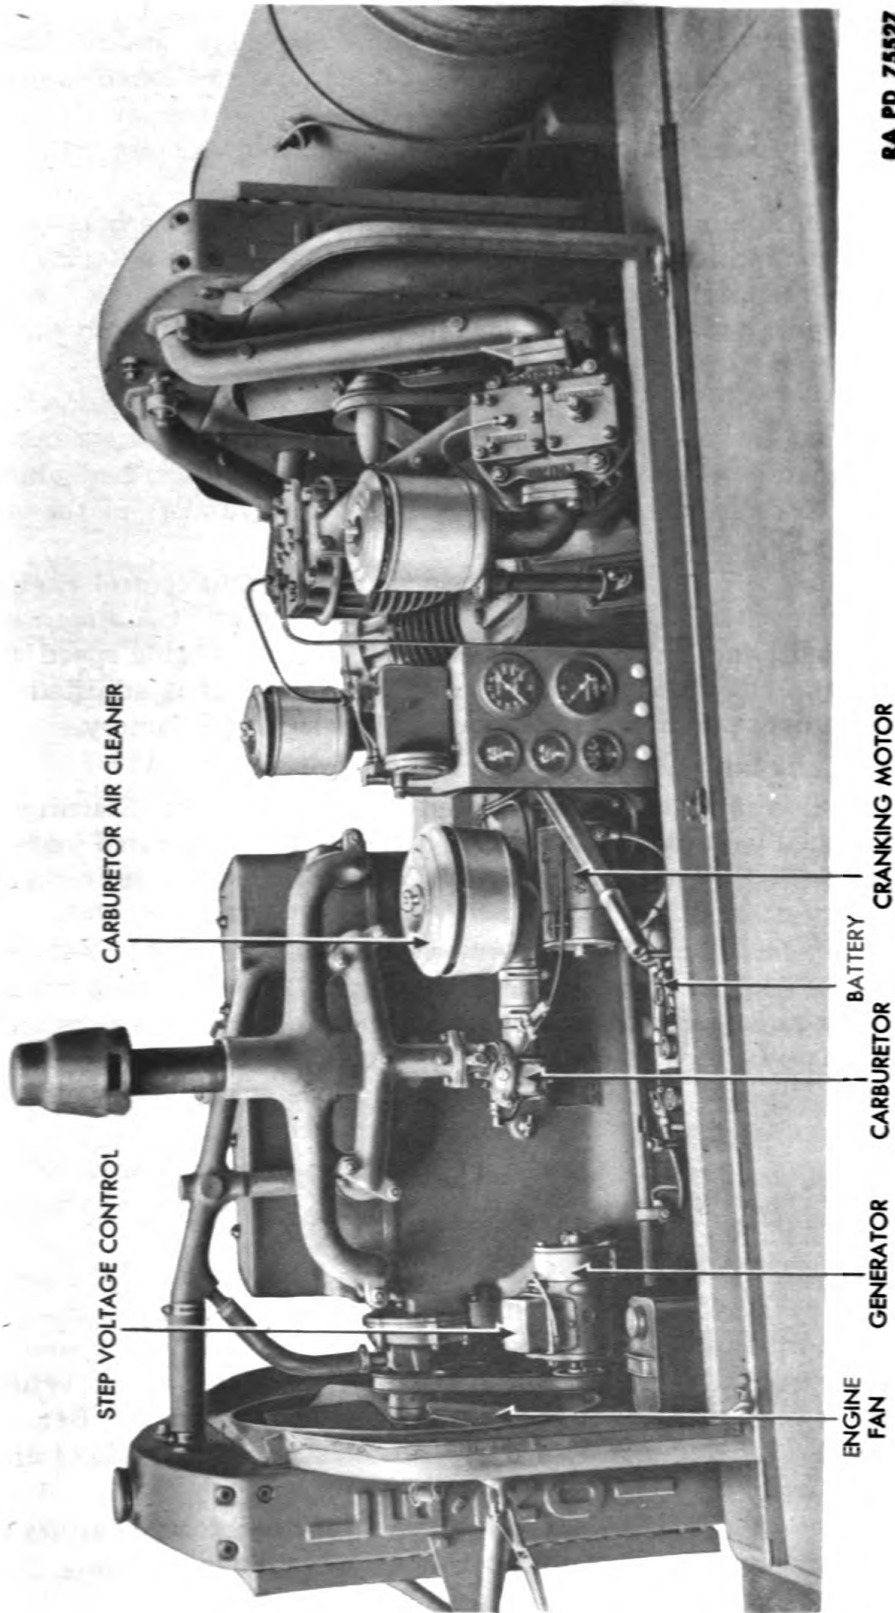

Figure 10 — Compressor Unit From Carburetor Side — Hood Removed
(c) **Fan and Water Pump** (fig. 10). A 22-inch diameter, 4-blade fan assembly is secured to the fan hub by four cap screws. In turn, the hub is pinned to the water pumpshaft which rotates in bronze bushings. An impeller is pressed onto the shaft. Sealing is accomplished by means of a sealing washer held in contact with a shoulder, and a rubber bellows and spring which automatically take up wear. Water pump capacity is 27 gallons per minute. Both fan and pump are driven by a V-belt.
(d) *Carburetor* (fig. 10). A Zenith model 62A10 carburetor is provided to discharge the desired amount of fuel into the entering air stream, to atomize the fuel, and to make an air-fuel mixture. Air-to-fuel ratio varies at different speeds and loads. The carburetor varies the ratio to give best performance for all conditions.
(e) *Air Cleaner* (fig. 10). An oil bath air cleaner is provided to clean the air entering the engine through the carburetor. It is similar in design and operation to the air cleaners previously described which are used to clean air entering the low-pressure cylinders of the air compressor.
(d) *Cranking Motor* (fig. 10). A Delco-Remy model 700 cranking motor is used. It is a 6-volt, 6-pole unit with oilless bearings at the center, commutator, and drive ends. It is provided with a sealed type cover band to exclude dust. A Bendix type drive is used. When the starter button on the instrument panel is pulled out, the Bendix drive of the cranking motor engages teeth on the engine flywheel and cranks the engine.
(e) *Battery* (fig. 10). A 6-volt automotive-type storage battery is provided to supply current for operating the cranking motor.
(f) **Generator (fig. 10).** A Delco-Remy model 1101374-generator is used to keep the battery charged. It is a 2-pole, third brush, sealed type unit. Armature support is provided by a ball bearing in the drive end and a bronze bushing in the commutator end.
(g) **Step-voltage Control and Cut-out Relay (fig. 10).** A step-voltage control unit and a cut-out relay unit are mounted on the same base and work in connection with the generator. Both are mounted on top of the generator. The step-voltage control unit is a magnetic switch. It automatically permits full generator output, as determined by third brush position and generator speed, when the battery is low and requires a high charging rate. When the battery becomes charged, the step-voltage control cuts down generator output to avoid over-charging battery. The cut-out relay prevents the battery from discharging through the generator when the engine is stopped or is running too slowly for the generator to charge. This step-voltage control is a Delco-Remy model 5889.
(1) Remove spark plugs and pour 2 tablespoonfuls of a mixture of half OIL, engine, SAE 10, and half gasoline into each cylinder.
(2) Install battery (fig. 10). Make certain connections are tight and that positive terminal is connected to ground strap.